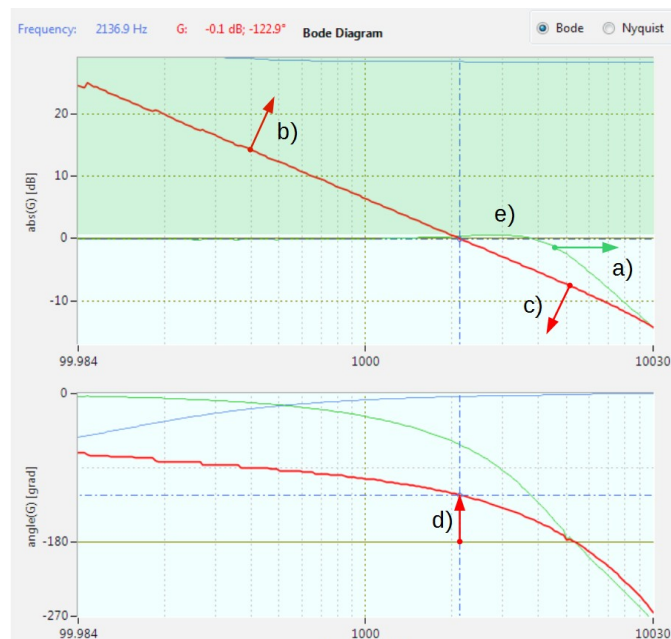
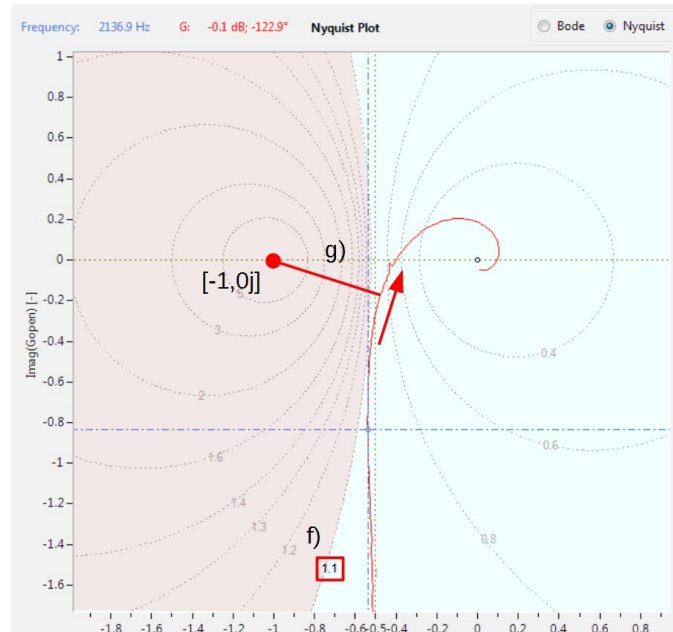

Figure 50: Tuning criteria in Bode view for the current controller.
Figure 51: Tuning criteria in Nyquist view for the current controller.
The goal for the tuning is to get a stable controller with the following characteristics (see also Figure 50 and Figure 51):
Tuning criteria in **Nyquist** plot view (Figure 51):
7 The phase-margin is the difference between the phase-angle of a transfer function  $G_o(f_{gc})$  at the frequency  $f_{gc}$  where the amplitude of  $H_o(f_{gc})$  crosses 0dB and  $-180^\circ$ . See d) in Figure 50.
2. With the cross-hair search the frequency  $f_{gc}$  where  $H_o(f_{gc})$  has a phase margin of  $60^\circ$  (Figure 50, marker d)).
1. In the Bode View place the cross hair at the frequency  $f_{gc}$  where the angle of the open loop transfer function  $H_o(f_{gc})$  (red line) has the desired phase margin e.g.  $60^\circ$  (see Figure 50, marker d)).